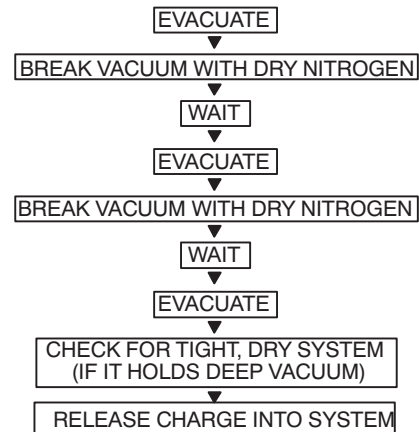

Fig. 50 —Triple Evacuation Method
The triple evacuation method should be used when vacuum pump is not capable of pumping down to 1/4 inch and system does not contain any liquid water. Refer to Fig. 50 and proceed as follows:
5. Repeat this procedure as indicated in Fig. 50. System is now free of any contaminants and water vapor.